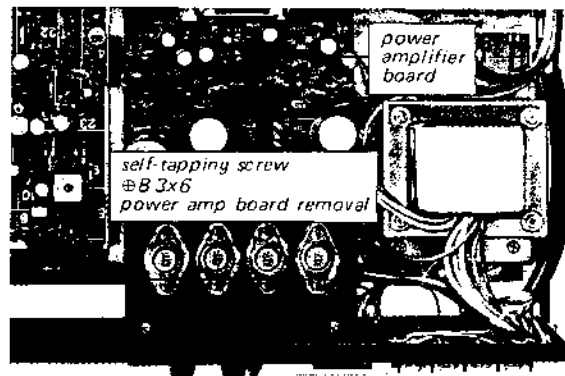

Fig. 2-18. Power amplifier board removal
2. Remove the two self-tapping screws securing heat sink bracket to the chassis as shown in Fig. 2-18.